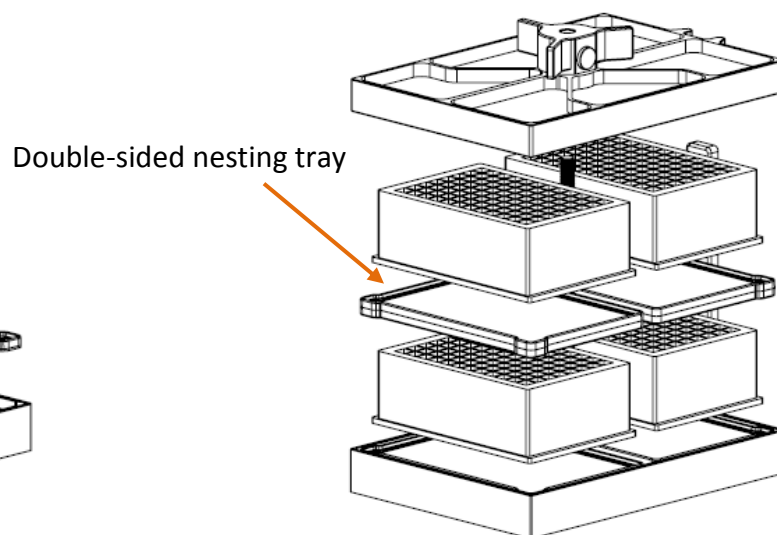

Figure 10 – Stacking Titer Plates
6. Place a set of 2 titer plates in the clamp base (front and rear) making sure that the plates are properly seated in the nests (Figure 10).
7. Place a double-sided nesting tray onto the titer plates in the clamp and stack a second row of plates on top, again making sure that the plates are properly seated in the nests (Figure 10). It is not necessary to place a nesting tray on top of the upper row of titer plates.